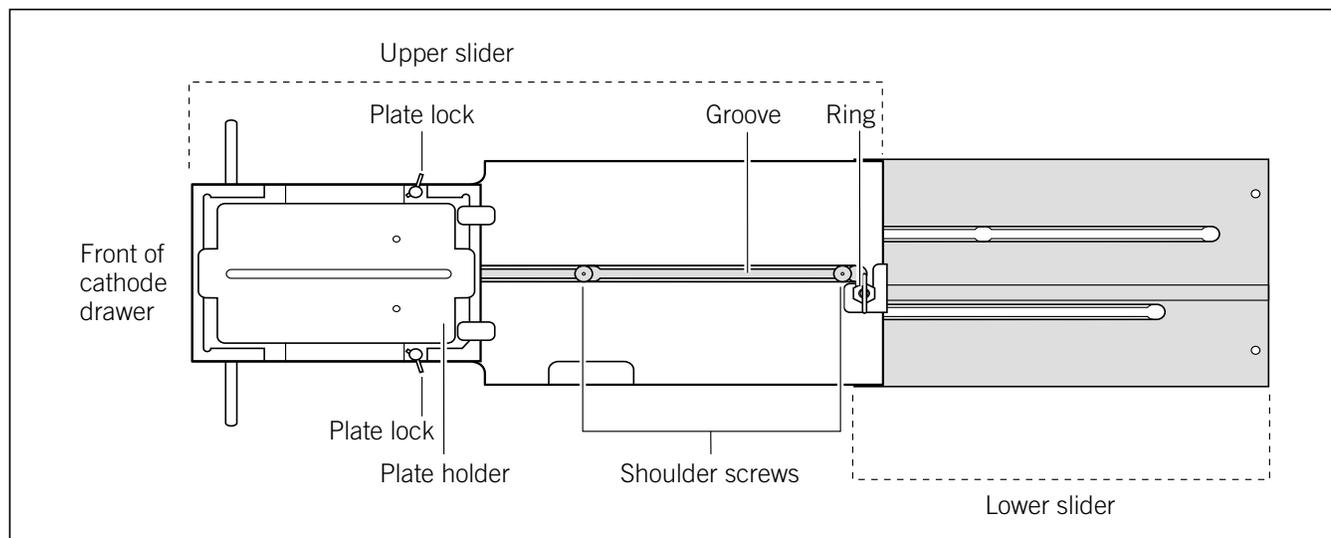

Figure 18-2. The upper and lower cathode sliders for the cathode assembly, top view.
- Then lift the upper slider off the lower slider (figure 18-2).
1. Hold the lower slider (the piece without the plate holder, figure 18-2) so that the shoulder screws face up and the wide end is toward the instrument.